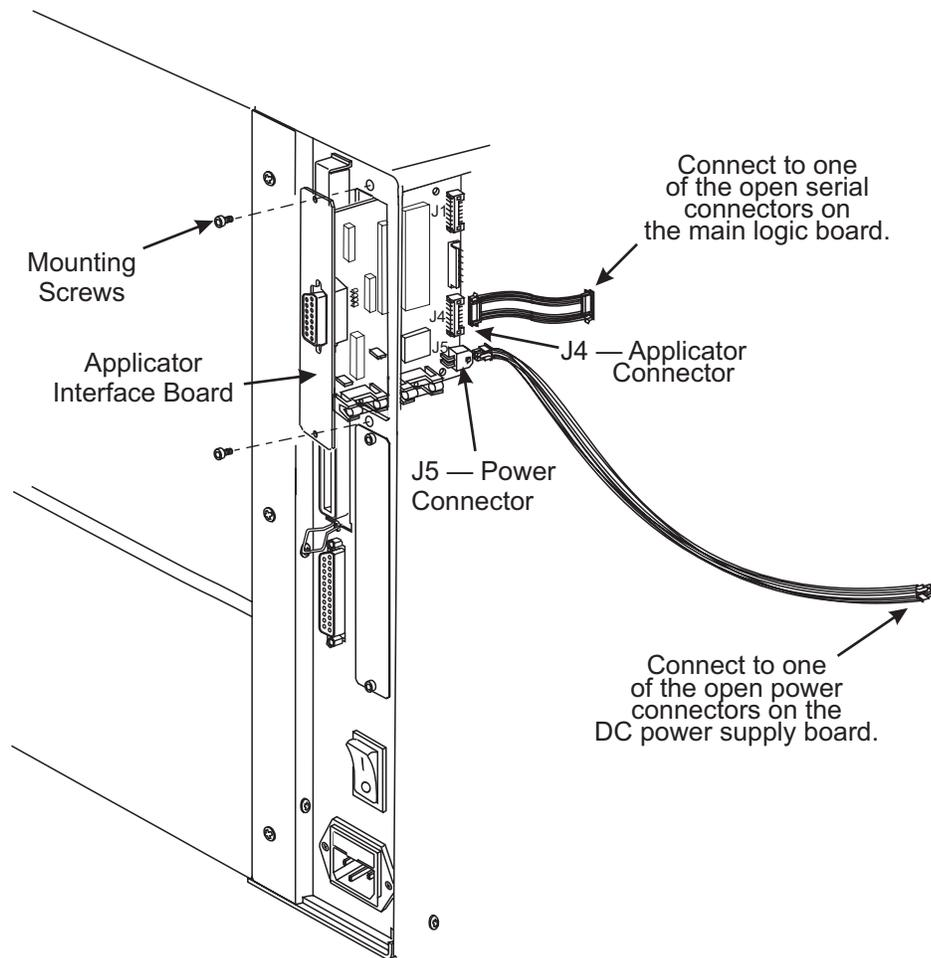

Figure 6-29. Applicator Installation
5. Refer to Figure 6-29. Insert the applicator circuit board and cable partially into the mounting slot. Connect the other end of the interface data cables to one of the open serial data connectors on the main logic board (J7–J10 or P30–P36) and the DC power cable to one of the open connectors (J5–J10) on the DC power supply board.
8. Reinstall the AC power cord and restore power. Turn the printer On (I).